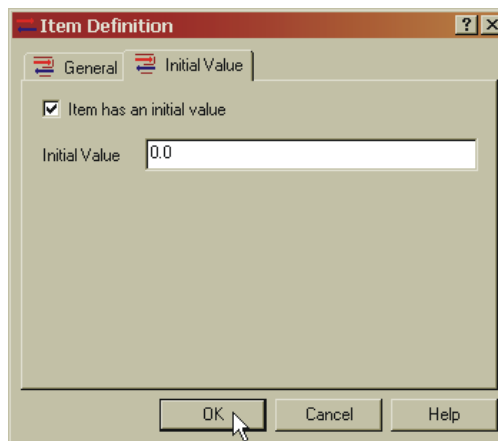

FIG. 205: ITEM DEFINITION
- Step 10. The Initial Value page appears. (See Fig. 205)